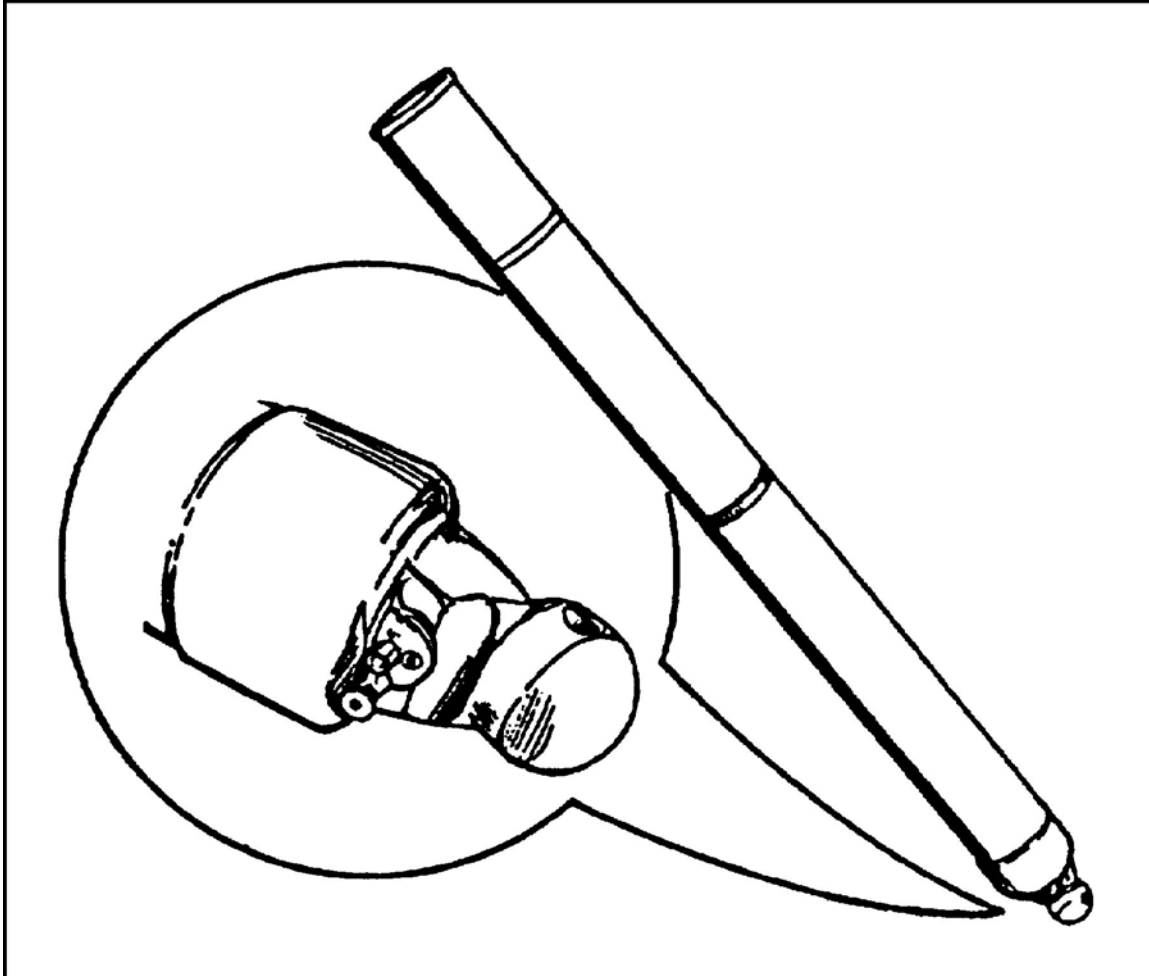

Figure 2. Safety mechanism and base cap.
- (1) Check the barrel for cracks, rust, or loose, missing, dented, or damaged parts.
- (2) Ensure breech cap is not loose. This may be shown by the discoloration around the safety mechanism or base cap (Figure 2) caused by gas leakage.
- (3) Ensure safety shifts from the "F" (fire) position to the "S" (safe) position and back.
- (4) Check for proper fit of the muzzle cap.